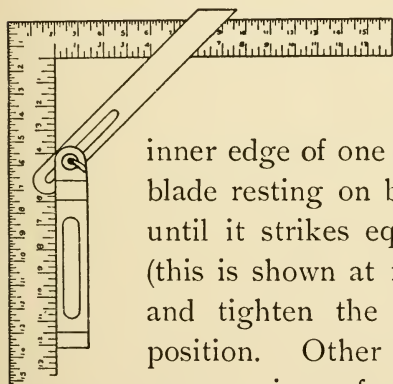

FIG. 42.
A two-foot carpenter's folding-rule should generally be used in laying off measurements and a sharp-pointed pencil or brad-awl to locate the points. To connect the points it is necessary to have a straight-edge—a steel framing-square (Fig. 42) for large boards and a small try-square (Fig. 38) for smaller pieces—and a pencil or knife.
**The Bevel** is in reality a try-square which can be adjusted to any desired angle. To set it at an angle of forty-five degrees, place it on the steel-square, as shown in Fig. 42, with the handle against the